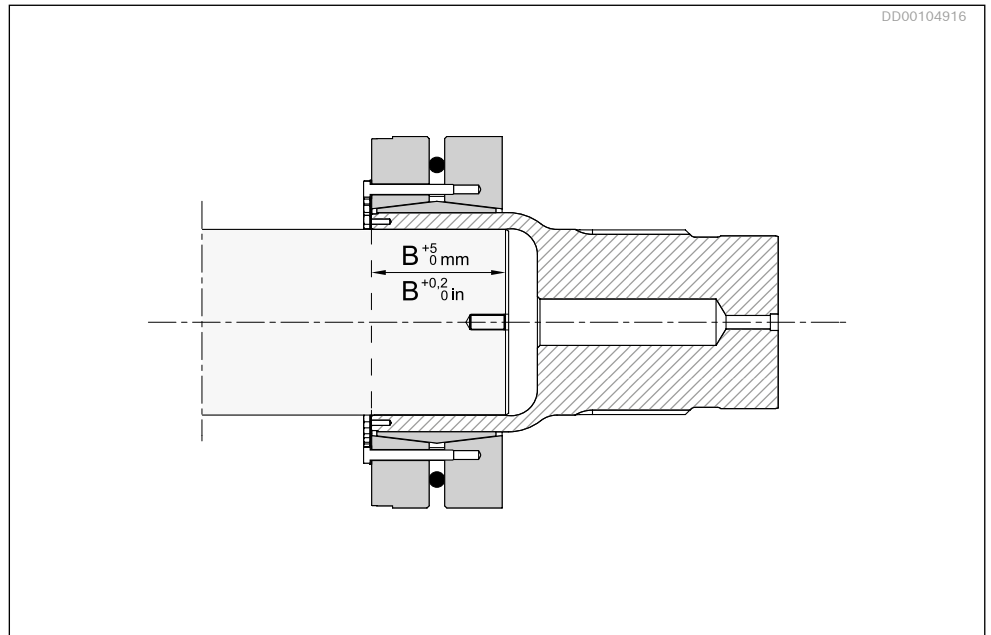
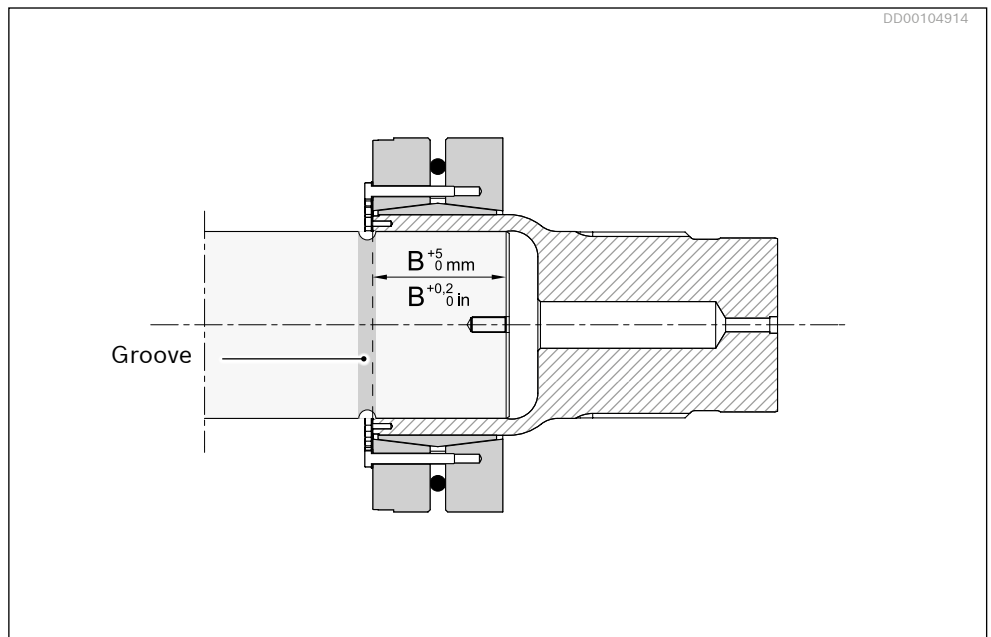

Fig. 36: Driven shaft without stress relieving groove
Fig. 37: Driven shaft with stress relieving groove
4. Pull the coupling adapter on the shaft by turning the nut on the assembly tool to specified clamping length (length B, see Fig. 36 and Fig. 37 and Table 14).